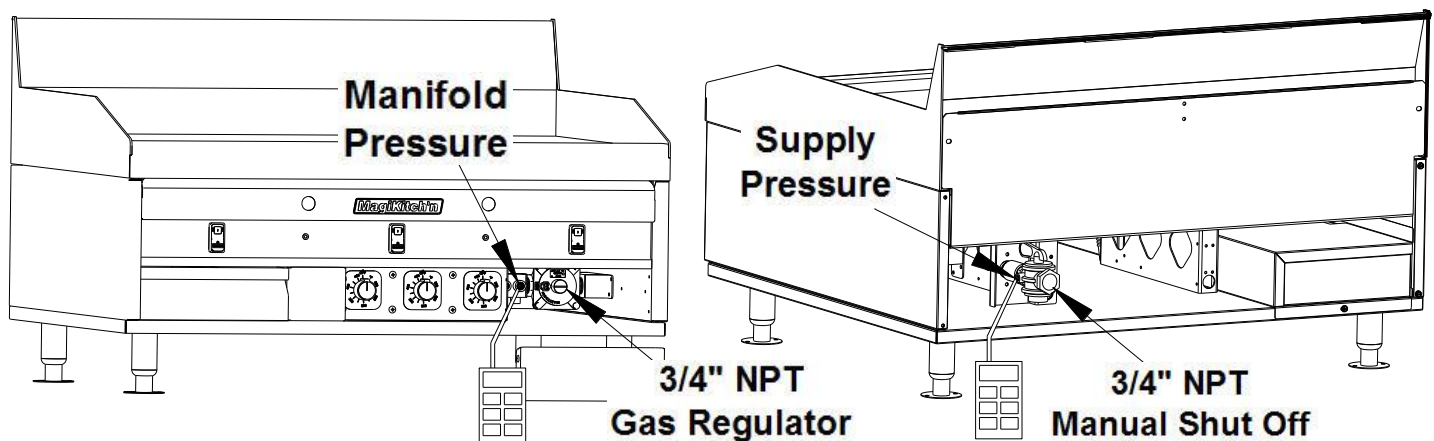
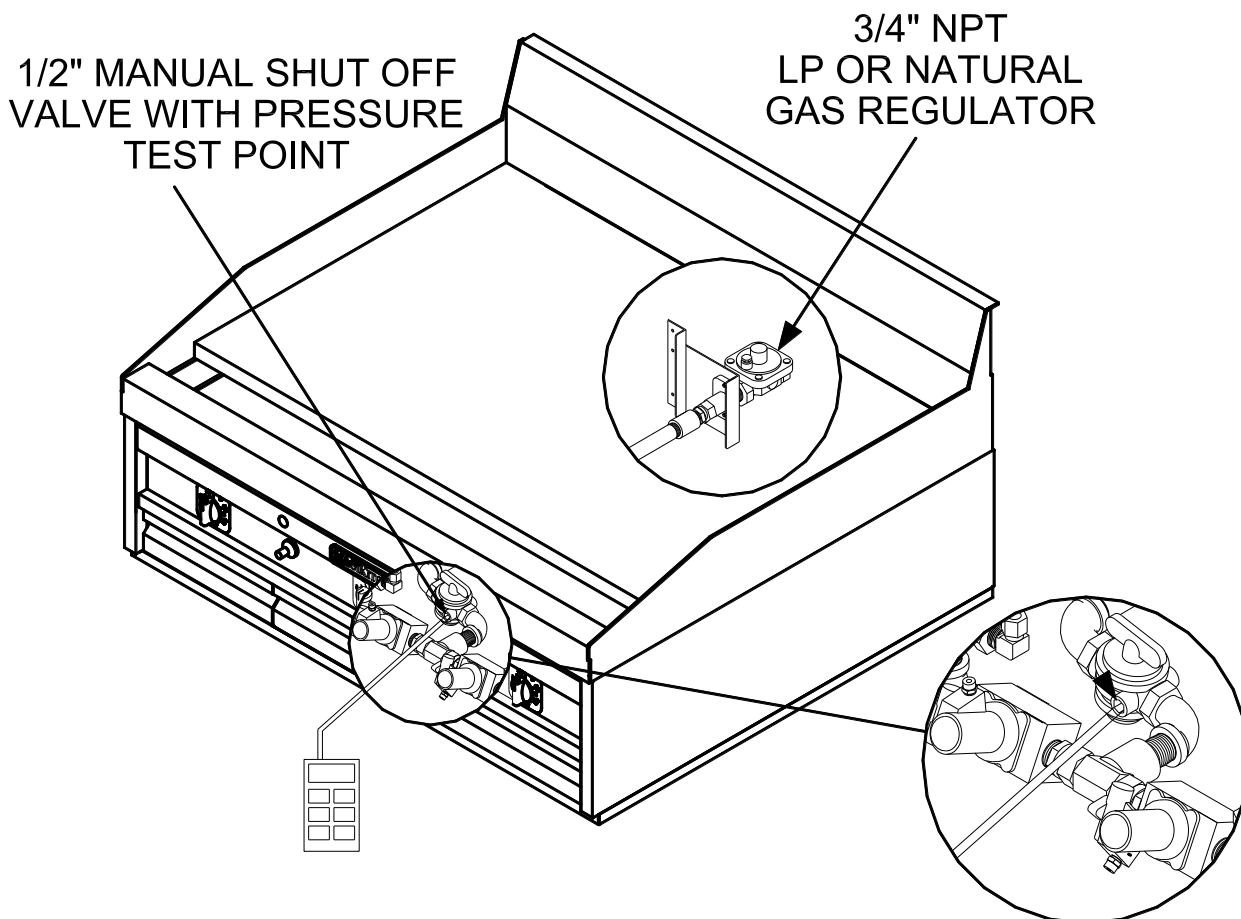

Figure 6, Matchless Ignition Regulator System
Figure 6a, Snap Action Regulator System
1. In most cases the gas input regulator for your new appliance has been installed at the factory, See Figures 6 & 6a depending on the model of your appliance for the location of the regulator and the manual shut off valve. **Note:** For Australian models the regulator is supplied as a separate item. This will allow the installer to choose their method of installation in accordance with AS/NZS 5601. The example in Figure 6a shows one possible method of attachment. Using a regulator other than the one supplied with the unit will void the warranty.
2. The manifold pressure must be maintained at the pressure marked on the Data plate. The manifold pressure reading is taken at the 1/8" NPT coupling located behind the lower front panel next to the gas regulator, see Figure 6 & 6a. To check the supply pressure to the appliance use the pressure test point supplied on the manual shut off valve, also see Figure 6 & 6a.
Orifices are sized to provide proper gas flow to the rated BTU/hr for each model. Regulator pressure must be measured and adjusted before the unit goes into service, following installation and when operational performance is in question. The manifold and supply pressure readings are taken at the pressure test points provided, see Figure 6 & 6a.
2. Open front door of the griddle, turn the manual gas shut off valve to the **"ON"** position. See Figure 6.
2. Turn the Manual gas shut off valve to the **"ON"** position, this valve is located at the rear of the unit, see Figure 6a. To open the valve to allow gas flow the handle should be in line with the manual shut off valve.